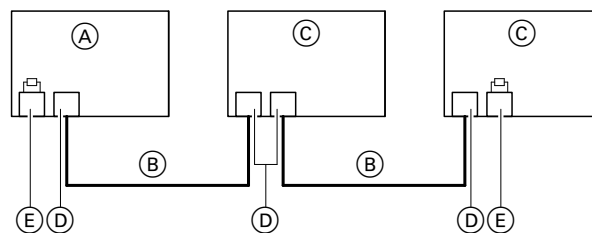

Fig. 43
- The appliance CAN bus is designed for "line" bus topology with a terminator at both ends: See Fig. 43.